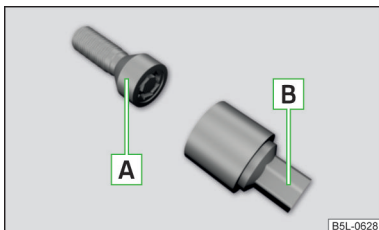

Fig. 331
The anti-theft wheel bolts protect the wheels from theft. The upper section **B** » Fig. 331 must be used to **loosen/tighten** these.
- › Push the wheel wrench onto the wheel bolt to the stop. Use the associated upper section for the anti-theft wheel bolts » Fig. 331 on page 283.